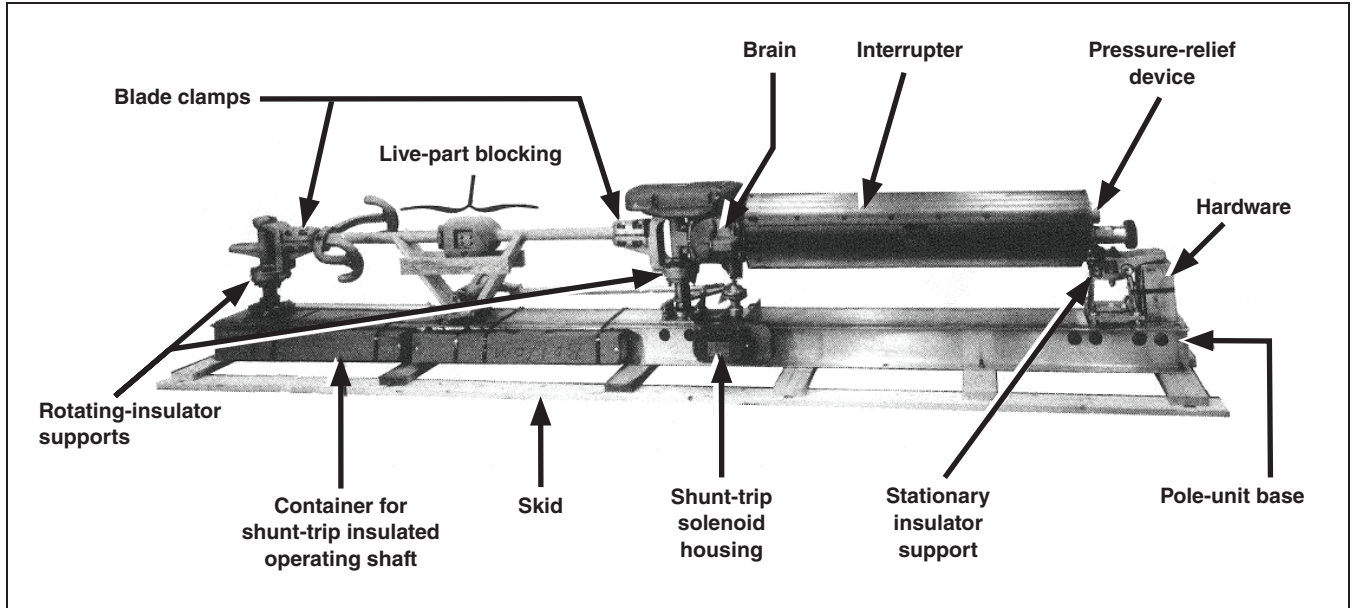

Figure 1. Center-Break Mark V Circuit-Switcher on shipping skid.
The circuit-switcher shipment should include the following items, as shown in Figure 1 on page 7:
- STEP 1.** Carefully remove the outer crate (if provided), but leave the skid attached to the pole-unit base. Remove any packaging supporting the live parts during shipping. See Figure 1 on page 7. Inspect for any obvious shipping damage before continuing installation.